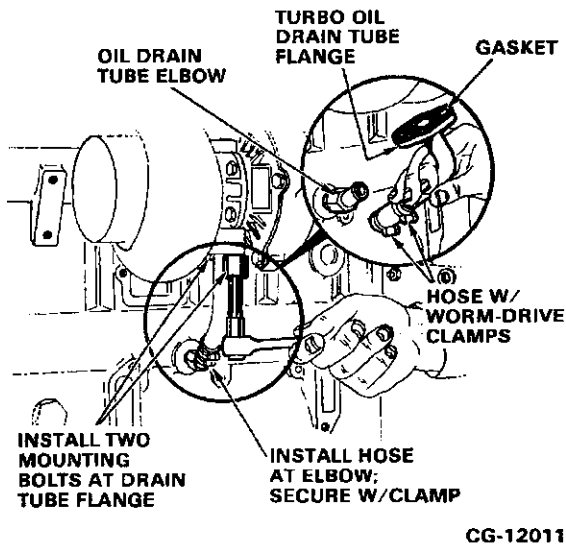

Figure 2.21. Turbocharger Oil Drain Tube Installation
4. Install the turbo oil drain tube as follows: (Refer to Figure 2.21.)